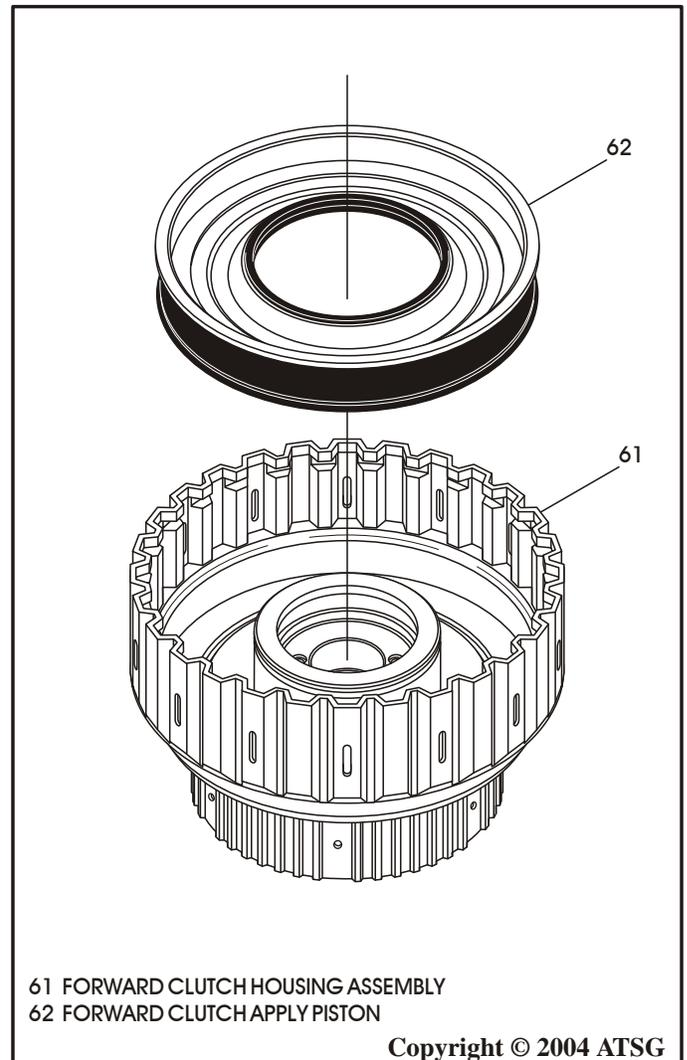

Figure 123
4. Place the forward clutch housing on flat work surface, as shown in Figure 123.
6. Install the forward clutch piston into forward clutch housing, as show in Figure 123, using a slight twisting motion.